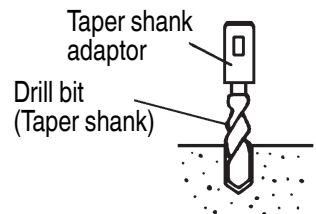

Fig. 21
- (1) Install drill bit with taper shank in the taper shank adaptor. (**Fig. 21**)
- (2) Turn the power on and drill a base hole.
- (3) After cleaning out dust with a syringe, attach the plug to the anchor tip and drive in the anchor with a manual hammer.